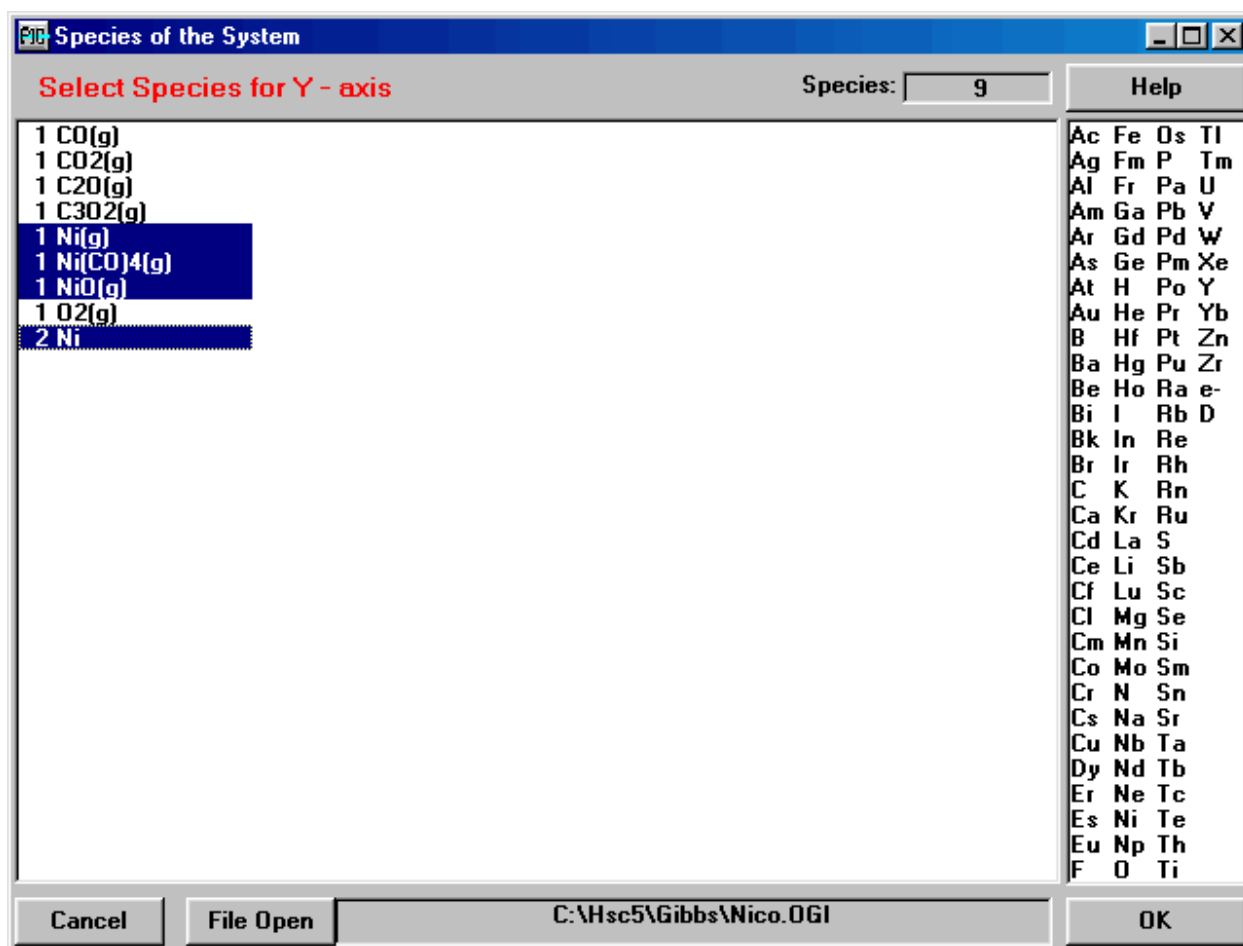

Fig. 9. Selecting the x-axis for an Equilibrium Diagram.
4. Select the species for the **y-axis** by keeping **Ctrl Key** down and clicking with the mouse. Sometimes it is convenient to select only those species, which contain the same element, for example Ni, for one diagram. This can easily be done using the element list, see Fig. 9. In standard cases you can get more illustrative diagrams by drawing all gaseous species on one diagram and all other species on another.
By pressing **Species** you will return to the previous window, see Fig. 9.